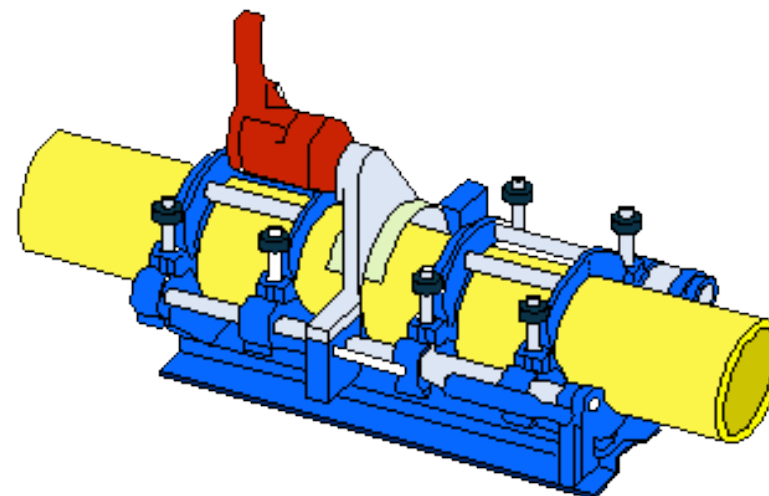

Figure E.2 – Trimming of PE Main
24. At this stage trimming can be discontinued. Figure E.2.